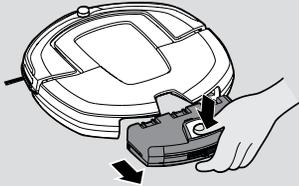

Fig.16
**FLOOR POLISHER PAD\*: [Fig.16]**
**EMPTYING THE DUST CONTAINER [Fig.16]**